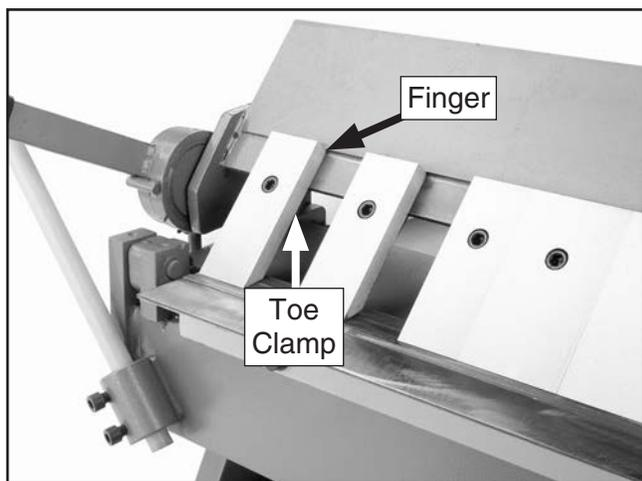

Figure 12. Example of finger spacing.
2. Remove fingers and toe clamps from clamping leaf, as shown in **Figure 12**, and set them aside.